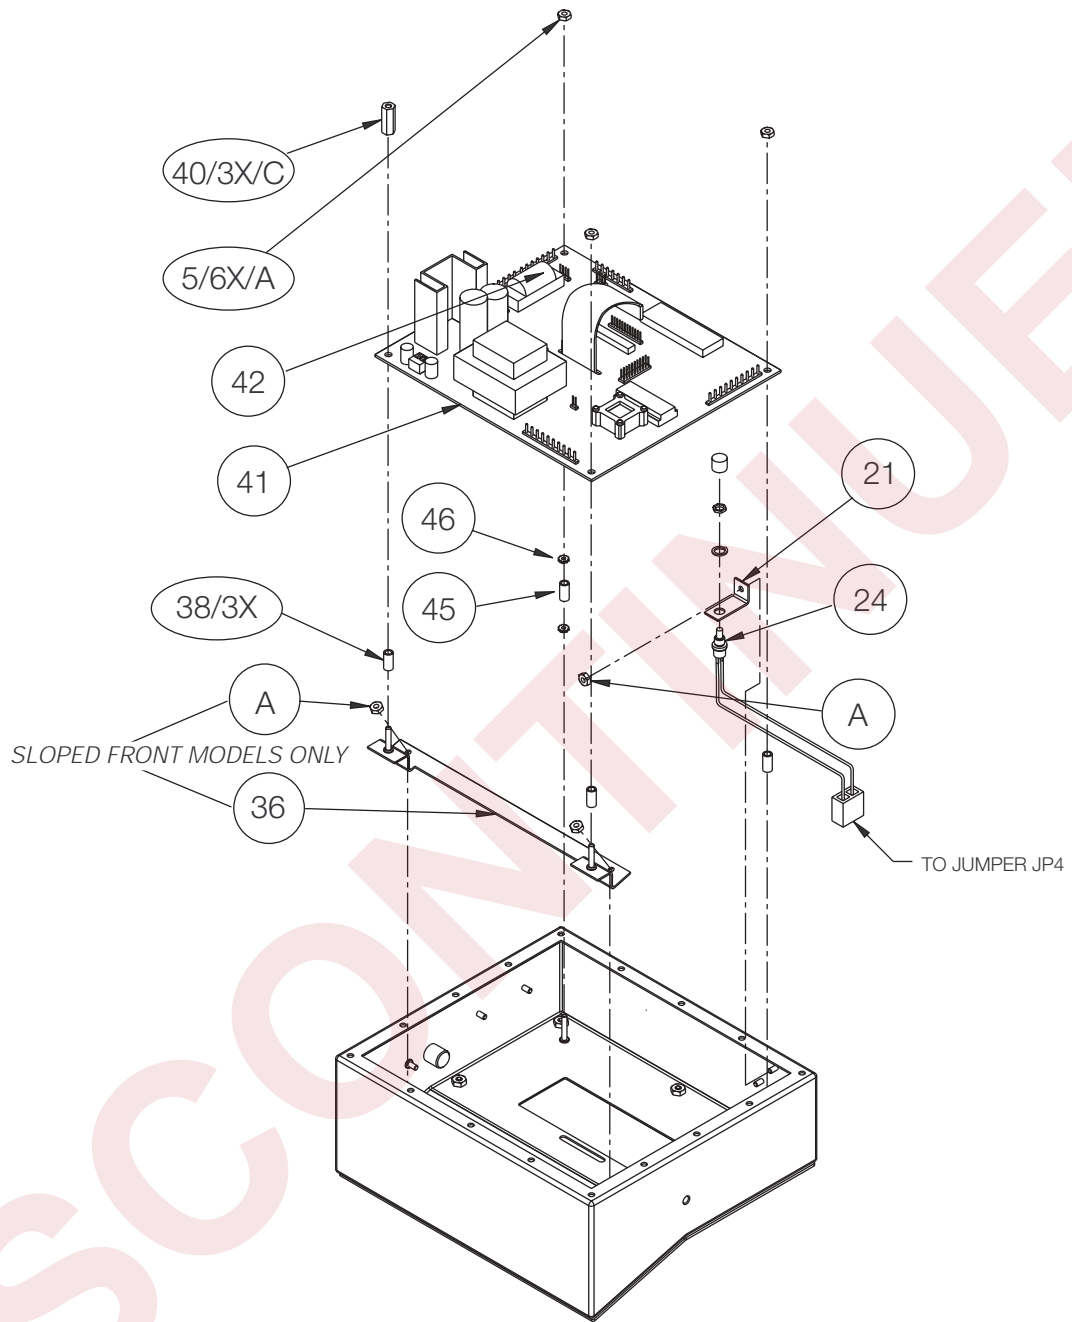

Figure 2-8. Enclosure and CPU Board Assembly
| 5          | 14621  | Kep nuts, 6-32NC hex (4-flat enclosure; 6-sloped) | Figure 2-8 on page 11  |
| 21         | 46027  | Setup switch mounting bracket (1)                 | Figure 2-8 on page 11  |
| 36         | 45401  | CPU board mounting tab, sloped front models (1)   | Figure 2-8 on page 11  |
| 38         | 48027  | Nylon spacers for board mounting (3)              | Figure 2-8 on page 11  |
| 41         | 64948  | Display and CPU board assembly, 115 VAC (1)       | Figure 2-8 on page 11  |